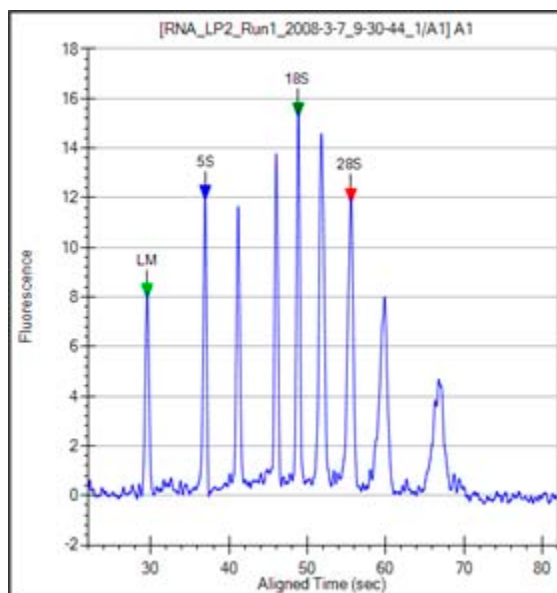

Figure 13. Markers - RNA
- 6 A dye matching the lowest peak in the ladder is run with each of the samples. This lower marker, labeled LM in the RNA sample (see Figure 13) is used to align the ladder data with data from the sample wells.